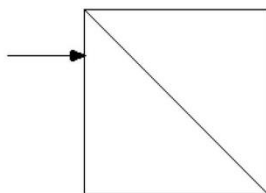

Figure 6.8. Experimental arrangement for light incident on a pair of prisms.
*Observation:* Throughout this observation, maintain a prism orientation such that the laser beam is incident normally on the first prism surface. Set one of the prisms on the platform so that the laser beam enters it as depicted in Figure 6.8 (*i.e.* with the prism on the right missing). Record whether you have a beam reflected from the angled surface, and/or a beam transmitted through the angled surface. Next, place the second prism up against the first one, as depicted in Figure 6.8, and again record whether you have reflected and/or transmitted beams. Next, drop some water onto the interface between the prisms, and wait a few seconds. Again, record whether you have reflected and transmitted beams. When you are done with this part of the experiment, remove the water from prisms and the platform with the washcloth.